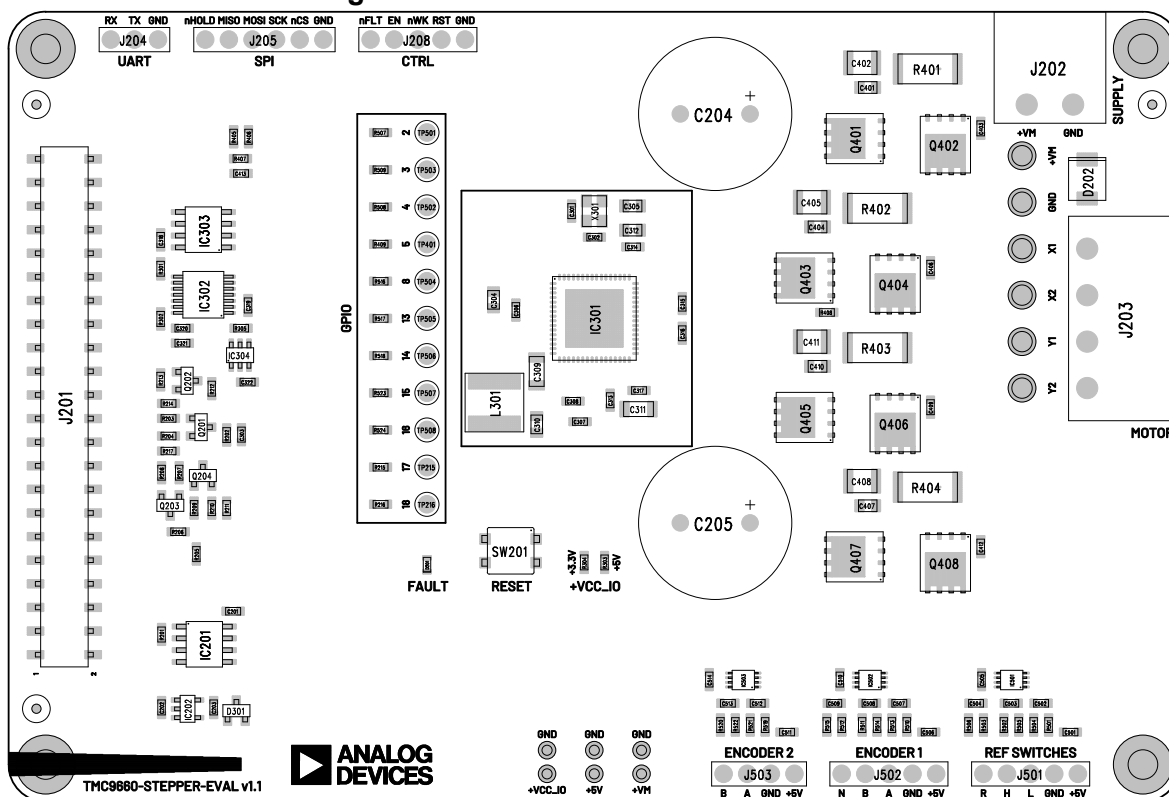

Figure 5. TMC9660-STP-EVAL Component Placement and Silkscreen
2. Plug the selected motor to the Connector J203, labeled as *MOTOR* on the board's silkscreen (see Figure 5). Observe the correct order of the X1, X2, Y1, and Y2 motor phases.
3. Plug the selected position feedback mechanism to the pin header J501, J502, or J503, labeled as *REF SWITCHES*, *ENCODER 1*, and *ENCODER 2\**, respectively, on the board's silkscreen (see Figure 5). At least one position feedback mechanism is required, however, the three of them can be plugged and used simultaneously. However, note that of the ABN Encoders only ABN Encoder 1 can be used for motor commutation, while either ABN Encoder 1 or Encoder 2 can be used for velocity or position feedback.
5. Plug the power supply cable to the Connector J202, labeled as *SUPPLY* on the board's silkscreen (see Figure 5). Make sure the power supply is off before connecting it to the board and that the polarity is correct.
The TMC9660-STP-EVAL has one power, and one motor connector, and six pin headers. These can be found in the component placement drawing in Figure 5 and are described in detail in the following table.
In addition to the connectors shown in Table 1, some unpopulated THM test points are available in the TMC9660-STP-EVAL. See the component placement drawing in Figure 5. The additional connectors are described in the following table.
The TMC9660-STP-EVAL includes a push button (SW201) labeled as *RESET* on the board's silkscreen, as seen in the component placement drawing in Figure 5. This button is tied to the RESETN pin of the TMC9660 and includes a 12kΩ pull-up resistor referenced to the 5.8V line, that is, the output of the TMC9660 internal buck regulator.